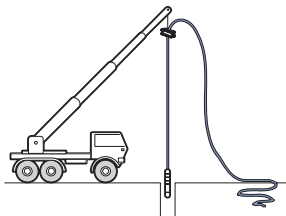

Fig 1.24
- 1.5.2.9 Lower the pump slowly into the borehole, until the **WELLMASTER** clamp is supported on the well-head casing, or for larger casing diameters, on two cross beams (Fig. 1.24).